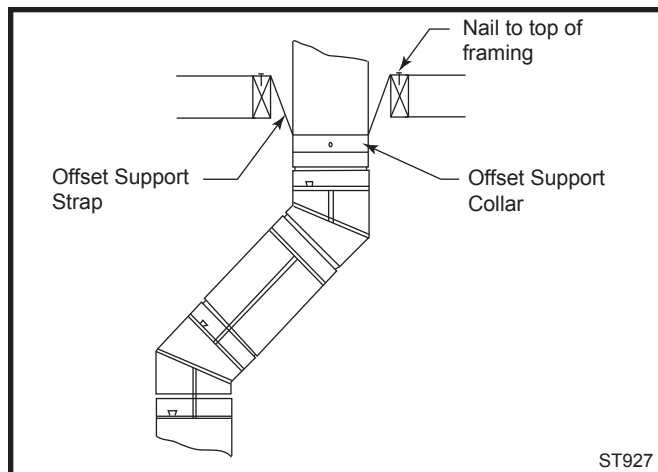

Fig. 38 Offset support.
If any offsets are necessary in the vertical system, an Offset Support (OS) should be installed directly above the upper elbow of the offset. Install by attaching the offset support band to the pipe with two #8 x 1/4" sheet metal screws (minimum) and secure the offset support straps to surrounding structure. (Fig. 38)